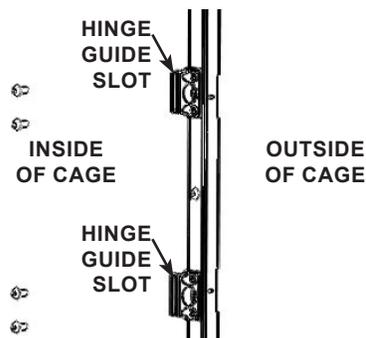

FIGURE 3.13 - Hinge Assembly Rotate
STEP 6: Flip, rotate the hinge assembly to the right side of the cage frame so that the hinge bushing guide is located on the inside of the cage frame. See FIGURE 3.13